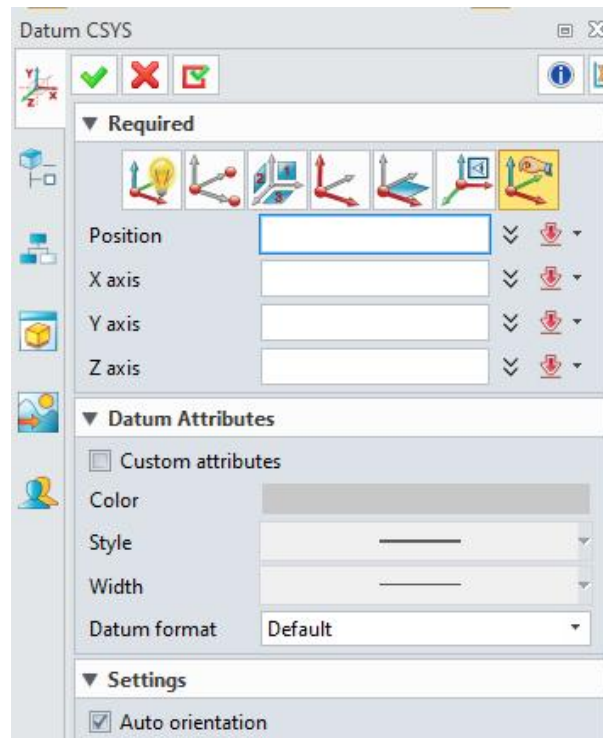

Figure 8-6: Dynamic
- Set "Datum CSYS" to "Dynamic". (Figure 8-6)